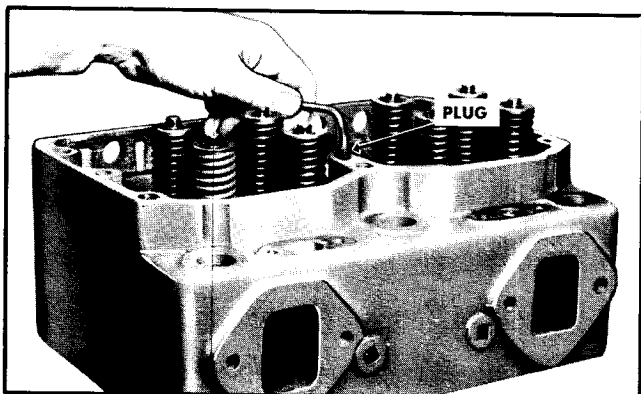

Fig. 4-22. Breather hole in cylinder head
1. Make sure that cylinder heads on naturally-aspirated engines have the top breather hole open. Supercharged or turbocharged engines must have this breather hole plugged with a $\frac{1}{8}$ inch pipe plug. The breather hole is located at the top of the cylinder head between the center stud holes. Fig. 4-22.